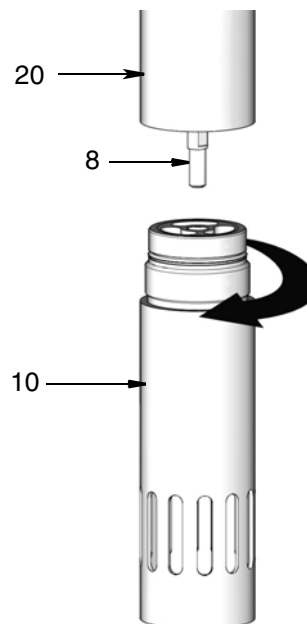

FIG. 4
6. Unscrew foot valve housing (10) from cylinder (20) (FIG. 4).